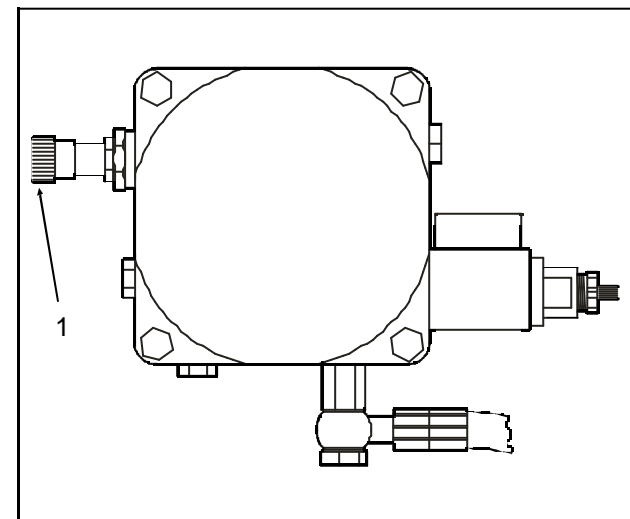

Fig.16
- in caso di sovraccarico del sollevatore interviene la valvola di massima pressione (rif. 1 Fig. 16).
- the maximum pressure valve (1, fig. 16), located on the hydraulic oil power unit, will trip if the lift is overloaded.